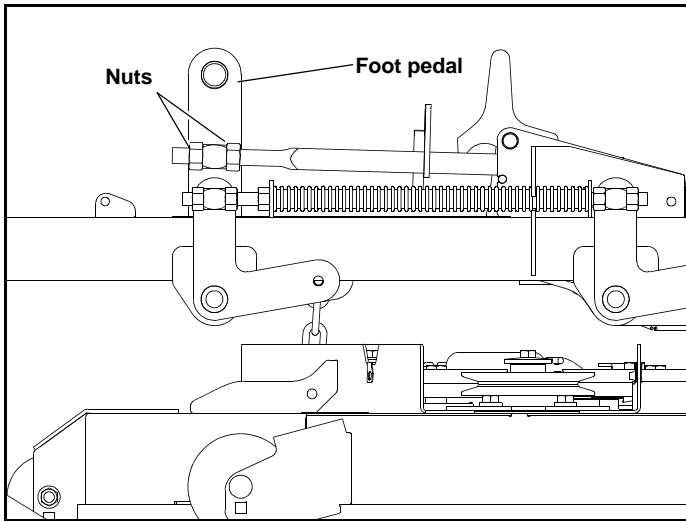
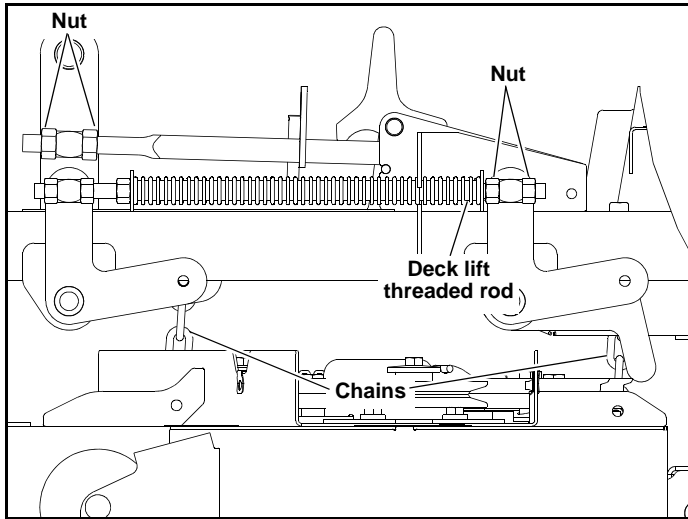

Figure 6-4
Figure 6-8
6. Loosen all nuts on the deck lift threaded rods, and the hardware on the height indicator bar (on the right front), until **all** the deck lift chains are loose, **and** the deck is sitting tightly on all four blocks. Figure 6-4, Figure 6-5 & Figure 6-8
7. Loosen the two nuts on the front of height indicator so that the foot pedal is free. Figure 6-4 & Figure 6-8
24. Make sure that there is still slack in the chain. If not, loosen the two nuts on the block holding the threaded rod until there is slack in the deck lift chain. Figure 6-8
25. Tighten the appropriate nut until the chain just becomes tight, and carries most of the deck weight. Check by moving the block—it should move with a slight drag. Figure 6-8